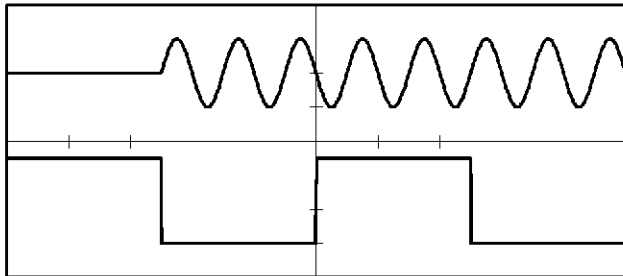

Figure 8-11 Waveform for Continuous, Negative
18. Make sure with the oscilloscope that a sine wave signal is output continuously from the falling edge of the trigger signal, as shown in Figure 8-11.